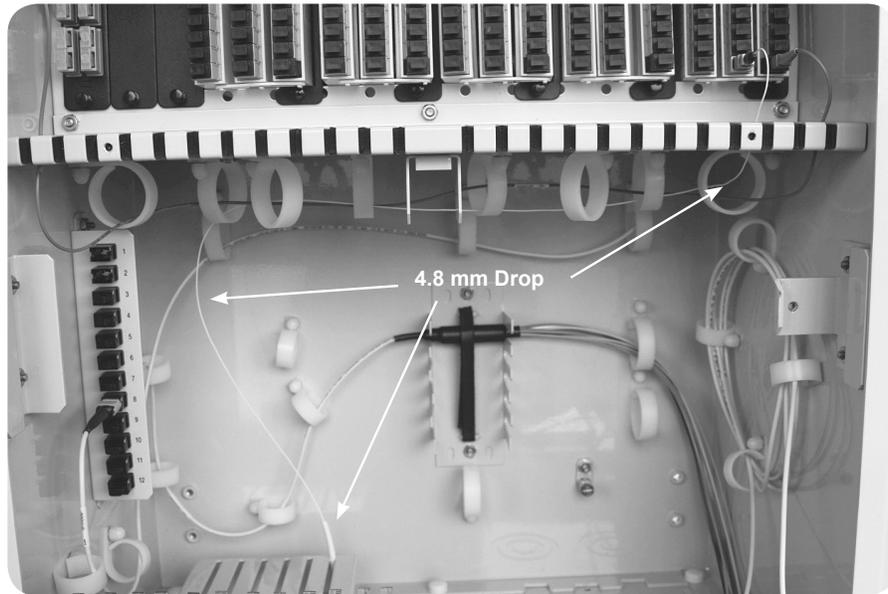

Figure 27
15. Route the remaining distribution fiber slack through the fiber routing section of the IDC. **(Figure 27)**